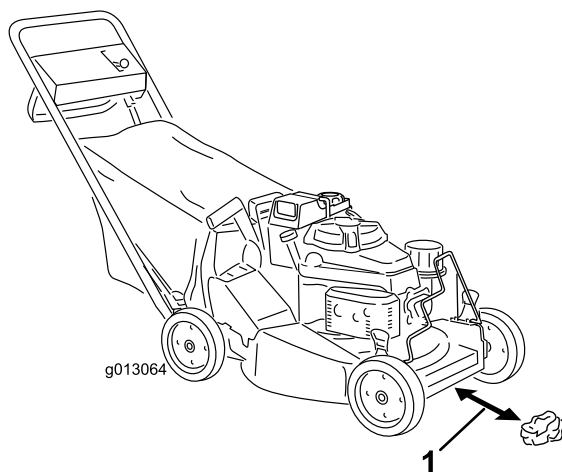

Figure 16
4. Set the ground speed selector to the Neutral (N) position.
5. Take a half sheet of newspaper and crumple it into a ball small enough to go under the deck (about 3 inches or 76 mm in diameter) as shown in Figure 16.
6. Place the ball of newspaper 5 inches (12.7 cm) in front of the machine (Figure 16).
- A. Place the ball of newspaper 5 inches (12.7 cm) in front of the machine (Figure 16).